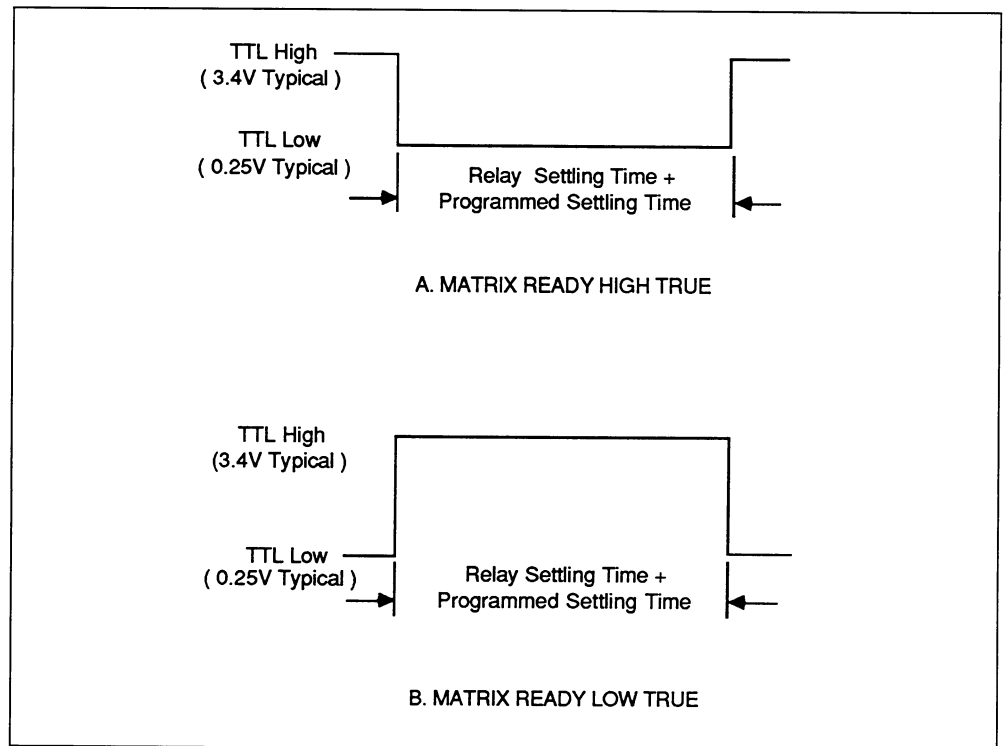

Figure 4-7. Matrix Ready Pulse
- Description** The B command allows you to program the TTL-compatible Matrix Ready output as a high- or low-true signal. This signal goes false when the relays are switched; it goes true after completion of the (hardware) relay settling time and (user) programmed settling time. Figure 4-7 shows example Matrix Ready signals.